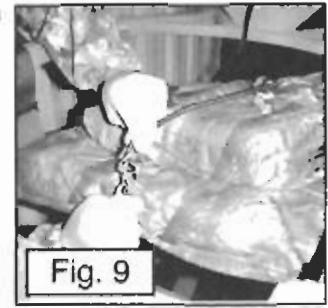

Fig. 9
**REQUIRED THAT YOU** attach your safety harness to the safety line around the tree. Hook the seat back elastic cord (bungee) hooks as shown in Figure 9 to keep secure during the climb.